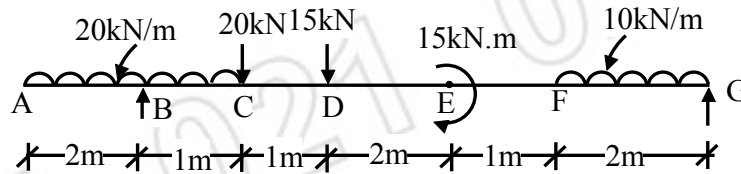

Fig. 2
4. Draw shear force and bending moment diagram for the beam shown in fig. 2 and locate the point of contraflexure if any. 13